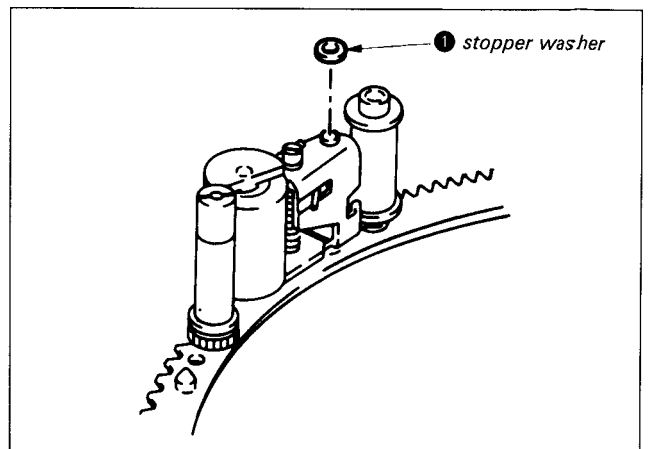

Fig. 7-25.
- 5) Mount the stopper washer ①. (See Fig. 7-25.)